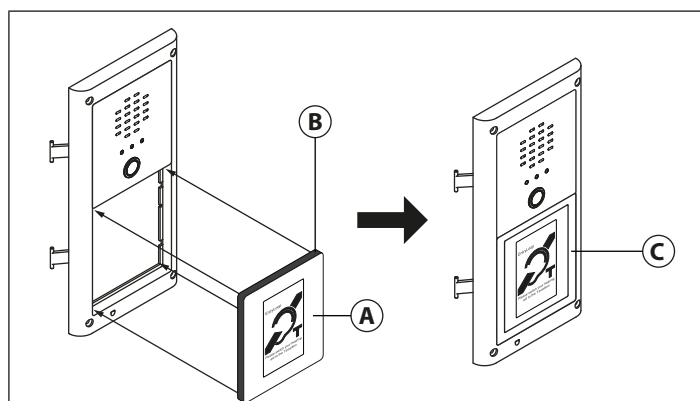

Fig. 8
2. Take the Art.VR4KIND module and feed it into the front side of the 4000 series support frame, as shown in **Fig.8, (A)**.
3. Fit the induction loop module in place, ensuring the outer gasket seal on the module, **Fig.8, (B)**, is firmly secure within the frame, as shown in **Fig.8, (C)**.